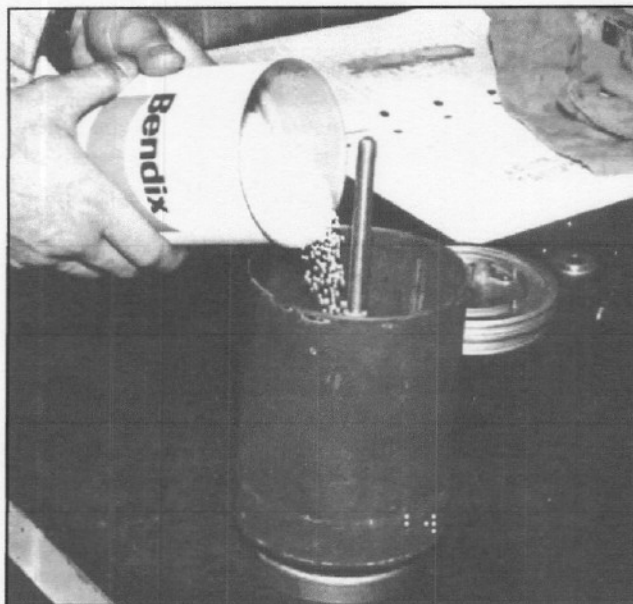

FIGURE 11
7. Pour the **entire package** of desiccant material into the shell, making **sure none is lost**. Handle carefully so that the bolt does not fall out. (See Figure 11)